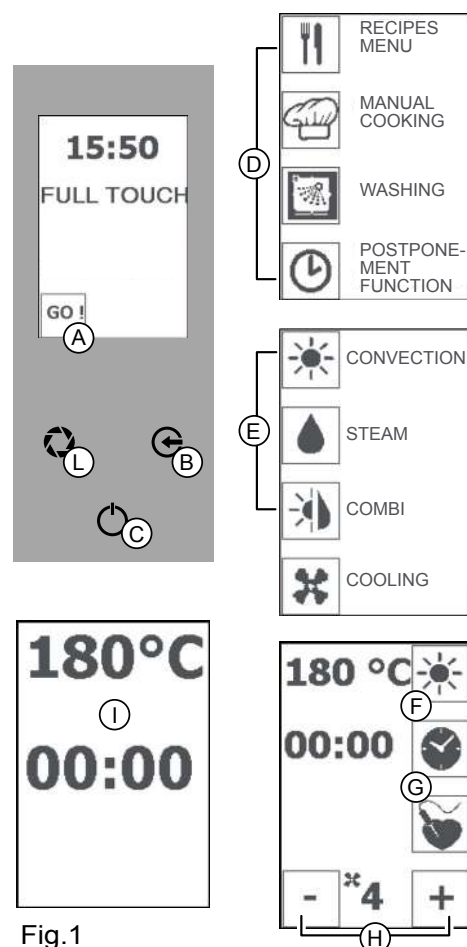

Fig.1
**After 3 minutes of inactivity the temperature and cooking time appear on the screen (Fig 1/I). Press the "ENTER" key to return to the screen with the set parameters.**
**"PAUSE" function: Press the "ENTER" key (Fig 1/C) to interrupt the function in progress and press the "ENTER" key again (Fig 1/C) to resume cooking**
Press the "ENTER" key (Fig 1/C) to interrupt cooking.
Press the "ESC" key (Fig 1/B) several times to return to the Home Page.
Press the "GO!" icon to activate the main menu (Fig 1/A).
Press the "MANUAL COOKING" icon (Fig 1/D) and select the cooking mode: CONVECTION (Fig 1/E).
Press the "TEMPERATURE" button (Fig 1/F) and use the "MINUS" and "PLUS" buttons to set the temperature to between 25 °C and 40 °C. Press "TEMPERATURE" to confirm.
Press the "TIME" button (Fig 4/G) and use the "MINUS" and "PLUS" buttons (Fig 1/H) to set the time to infinite, 1 minute or 09:00 hours/minutes.
Press the "ENTER" key (Fig 1/C) to interrupt the process.
“PAUSE” function: Press the “ENTER” key (Fig 1/C) to interrupt the function in progress and press the “ENTER” key again (Fig 1/C) to resume cooking